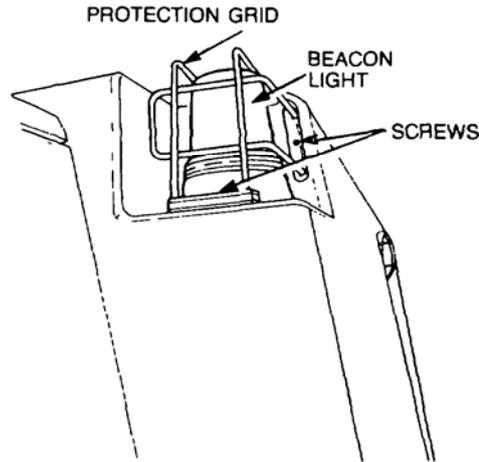

Figure 13 Rotating Beacon Light Grid Removal
- a. Remove the three screws securing the protective grid to the module (refer Figure 13).
- b. Remove the three screws securing the protective grid to the module (refer Figure 13).